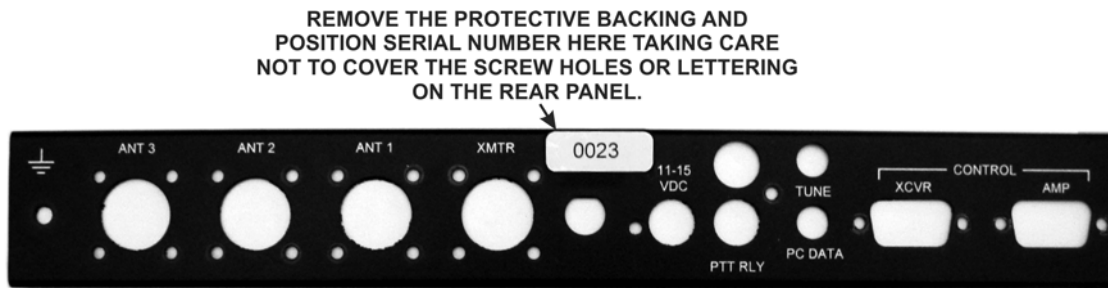

Figure 17. Attaching Serial Number to Rear Panel.
- Remove the protective backing from the serial number label and press it onto the rear panel as shown in Figure 17. Be careful not to cover the screw holes or lettering on the rear panel.